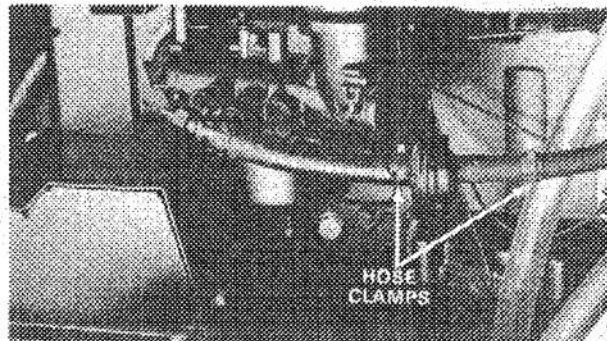

Figure 19
- B. Turn engine off and place drain pan below drain plug (Fig. 19). Remove drain plug and allow all oil to flow into drain pan. Install drain plug after oil stops flowing.
An in-line filter is incorporated into the fuel line between the fuel tank and carburetor (Fig. 19). Use the following procedures should replacement become necessary: